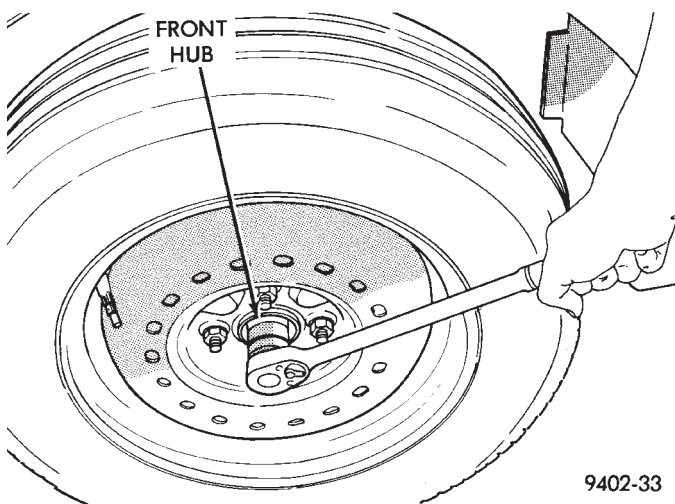

Fig. 59 Loosening Front Hub Nut
(2) Loosen hub nut while vehicle is on the floor with the brakes applied (Fig. 59). **The hub and driveshaft are splined together through the knuckle (bearing) and retained by the hub nut.**
(3) Raise vehicle on jack stands or centered on a frame contact type hoist. See Hoisting in the Lubri-